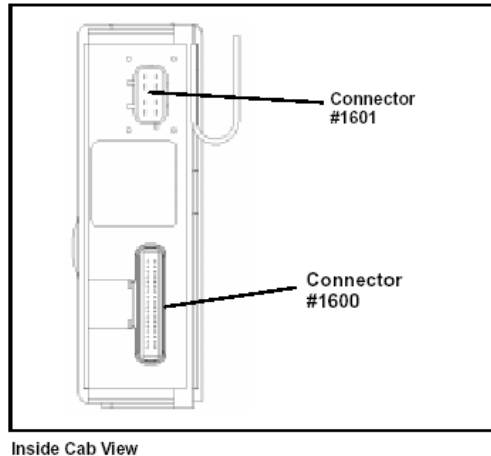

Figure 1: ESC Module
12. Disconnect the 1600 connector from the ESC module and connect the A90P gray wire to cavity 9 in the 1600 connector (reference Figure 1 below).